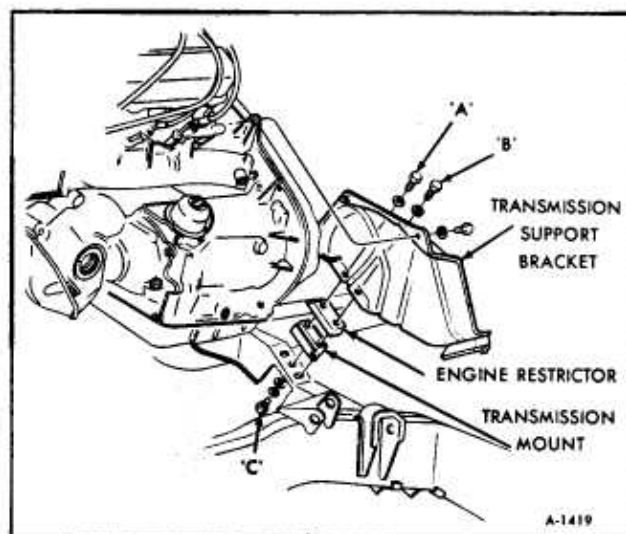

Figure 7-Engine Rear Mounting
3. Remove bolts "A", "B" and "C" on both sides of the engine/transmission rear support (See figure 7).